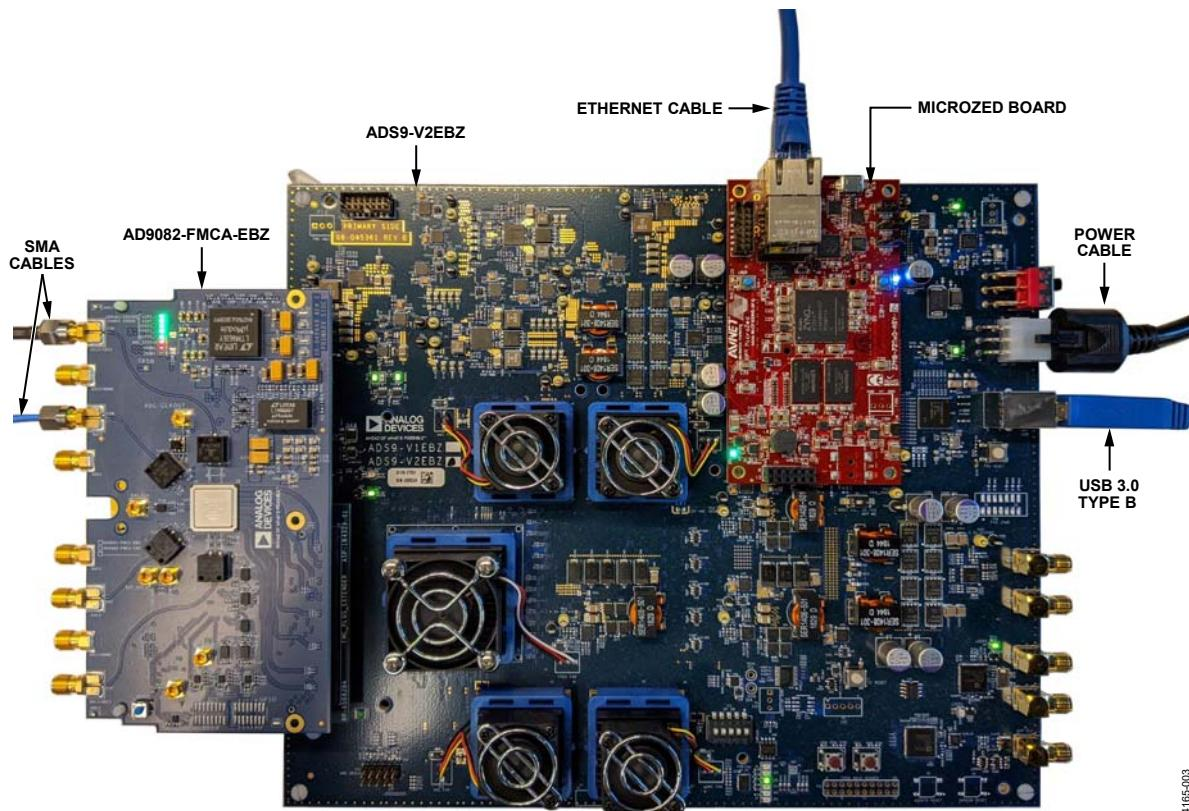
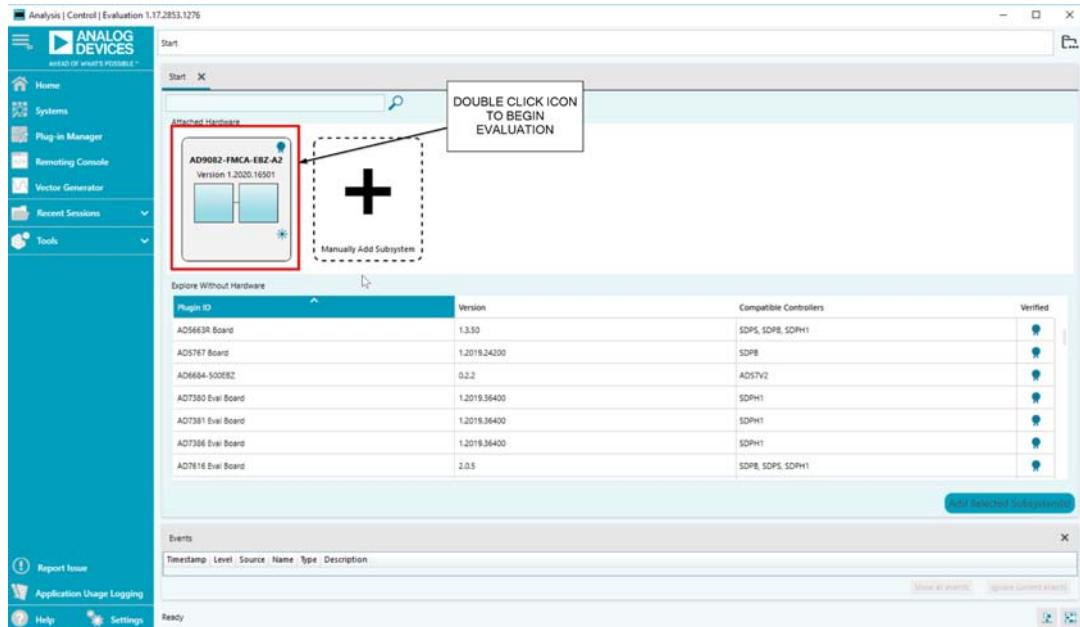

Figure 3. Bench Setup for Evaluation of the AD9081 or AD9082
Figure 7. ACE Initial Window Showing **Attached Hardware**
Figure 3 shows the basic hardware setup required to evaluate the AD9081 or AD9082 (AD9082-FMCA-EBZ shown as an example). This setup uses the on-board clock to manage the clocks for the AD9082 as well as the FPGA for proper functioning of the transceivers.
The AD9081 or AD9082 plugin allows the user to evaluate the AD9081 or AD9082 chip via the AD9081-FMCA-EBZ or AD9082-FMCA-EBZ evaluation board. First, ensure the board is connected with all proper hardware as shown in Figure 3. Next, ensure that the ADS9-V2EBZ board is powered on before opening ACE. When the user opens the ACE software, the plugin appears in the **Attached Hardware** section (see Figure 7).
3. As a precaution, ensure that the MicroZed board is seated properly on the ADS9-V2EBZ, as shown in Figure 3. Only a visual inspection is needed.
1. Ensure that the connections to ADS9-V2EBZ are as shown in Figure 3. It is not necessary to connect the AD9082-FMCA-EBZ evaluation board.